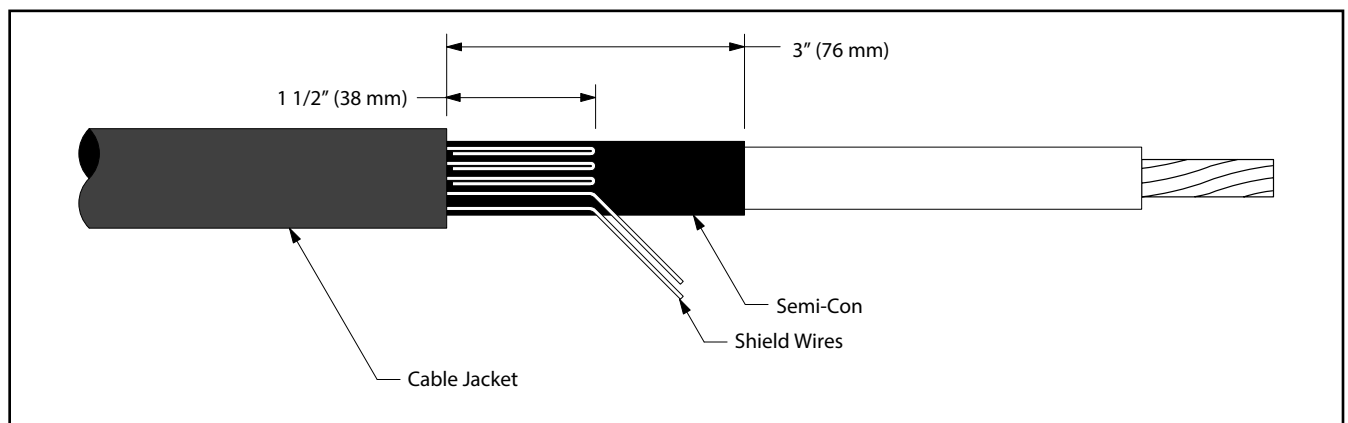

Figure 9
7.3 Bend leading 1 1/2" (38 mm) of exposed shield wires back upon themselves to jacket edge (*Figure 9*).